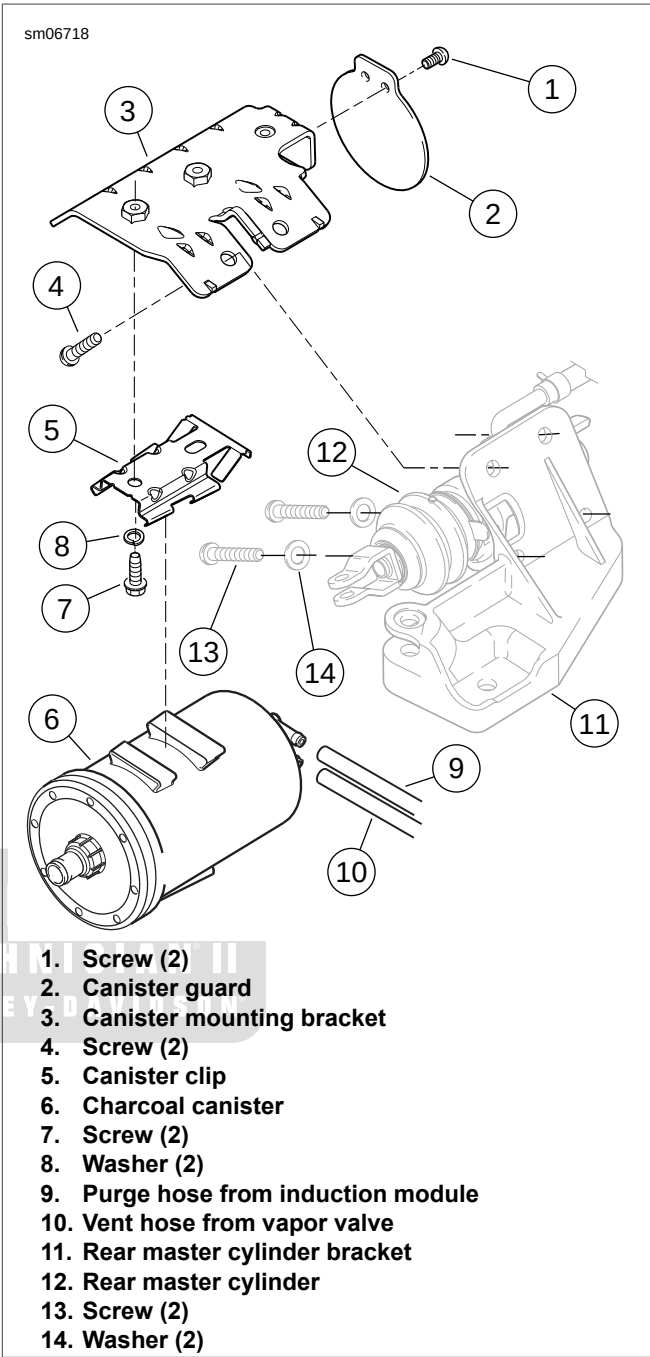
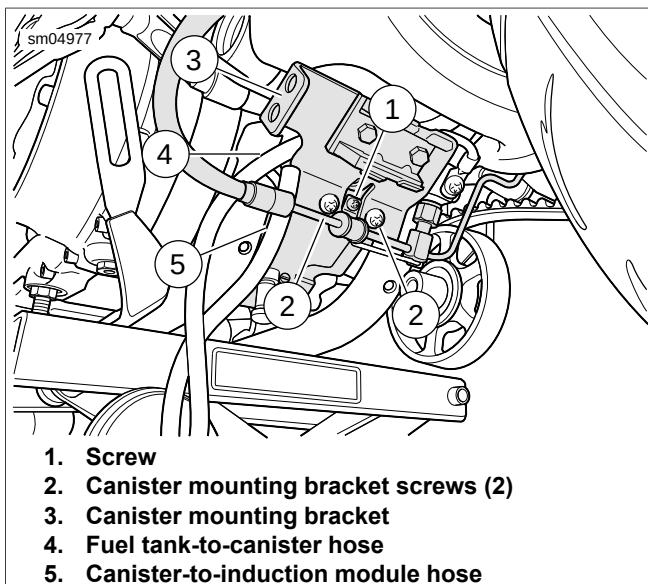
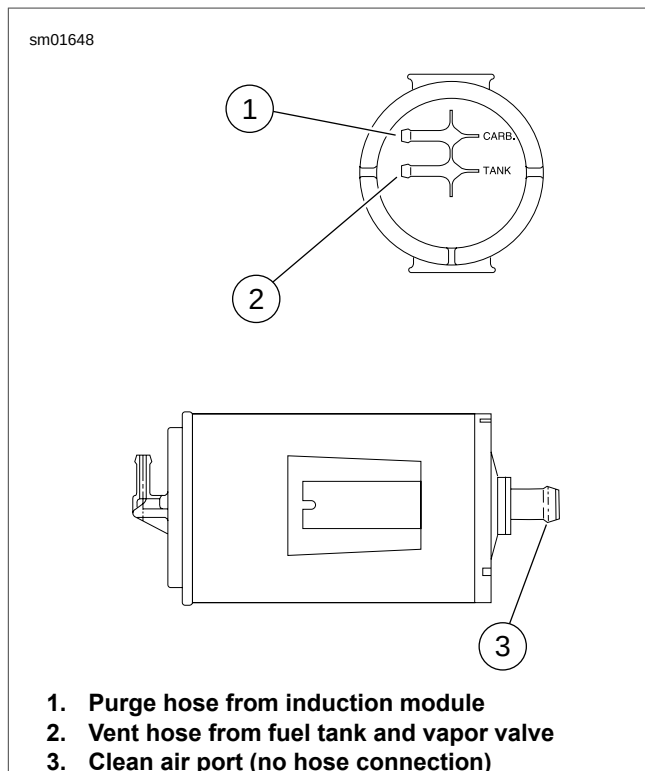

Figure 4-87. Charcoal Canister Mounting (typical)
Figure 4-88. Charcoal Canister Mount: XR 1200X
Figure 4-89. Charcoal Canister Connections
1. See Figure 4-87. Remove two screws (1) and canister guard (2).
2. Mark the two hoses (9, 10) connected to charcoal canister (6). Disconnect hoses from canister.
3. Press the locking tabs at the left end of canister clip (5). Slide canister towards left side of vehicle until it disengages from canister clip.
4. Remove two screws (7) and washers (8) to detach canister clip from canister mounting bracket (3).
- a. Remove two screws (13) and washers (14) securing rear master cylinder to mounting bracket. This will allow you to move the rear master cylinder to access the remaining fasteners.
- b. Remove two screws (4) to detach canister mounting bracket from rear master cylinder mounting bracket.
6. **XR 1200X:** See Figure 4-88. If canister mounting bracket requires repair/replacement, remove two screws (2) to detach canister mounting bracket from frame.
1. **XL Models:** See Figure 4-87. If canister mounting bracket (3) was removed, proceed as follows:
- a. Attach bracket (3) to rear master cylinder mounting bracket and frame with two screws (4). Tighten to 17-22 ft-lbs (23.1-29.9 Nm).
- b. Apply one or two drops of LOCTITE 243 to screws (13). Install rear master cylinder (12) to mounting bracket (11) with screws and washers (14). Tighten to 17-22 ft-lbs (23.0-29.8 Nm).
2. **XR 1200X:** See Figure 4-88. If canister mounting bracket (3) was removed, proceed as follows:
- a. Apply LOCTITE 243 MEDIUM STRENGTH THREADLOCKER AND SEALANT (blue) to the threads of the mounting screws (2).
- b. Install bracket and tighten screws (2) to 17-22 ft-lbs (23.1-29.9 Nm).
3. See Figure 4-87. Attach canister clip (5) to canister mounting bracket with two screws (7) and two washers (8). Tighten to 36-60 **in-lbs** (4.1-6.8 Nm).
4. Starting at left side of canister clip, slide charcoal canister (6) to the right until tabs on canister clip lock canister in place. Bend tabs outward somewhat if canister is not held securely.
5. See Figure 4-89. Connect two hoses (1, 2), marked during disassembly, to their proper fittings on canister.
6. See Figure 4-87. Install canister guard (2) using two screws (1). Tighten to 35-45 **in-lbs** (4.0-5.1 Nm).